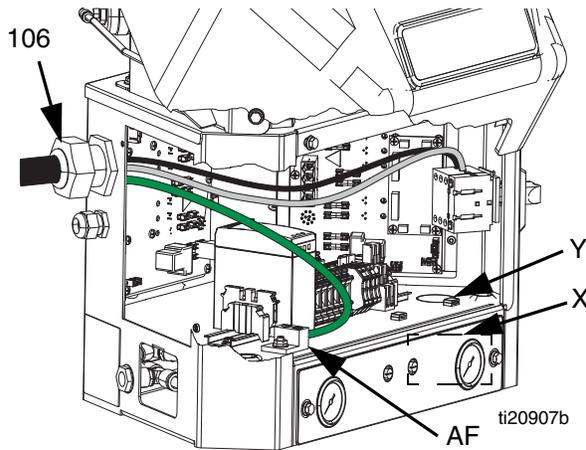

FIG. 14
NOTE: The installed strain relief bushing (106) fits a 0.708-1.260 in. OD electrical cord. See FIG. 14. If needed, use a wrench to tighten the strain relief bushing until it is snug on the cable.
5. Insert electrical cord through electrical enclosure strain relief bushing (106). See FIG. 14 on page 19.
- a. Alternate electrical cord routing: using conduit, run electrical cord from access port (X) through hole (Y). Conduit is required when routing wires near compressed air components.
7. Connect ground wire to chassis ground (AF). See FIG. 14.